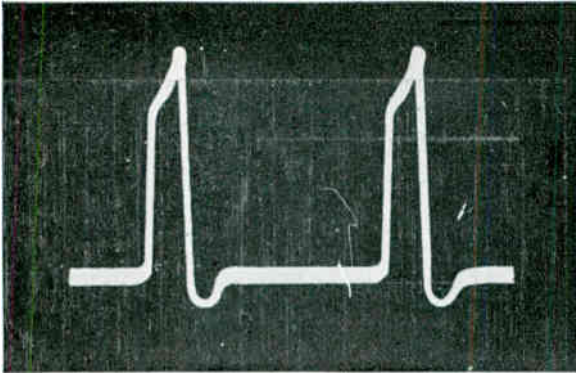

Fig. 139-16.
*Fig. 139-16:* From the plate of the sync clipper tube. This waveform is the input to the differentiating filter located between the clipper and the horizontal oscillator control tube of the horizontal afc system.